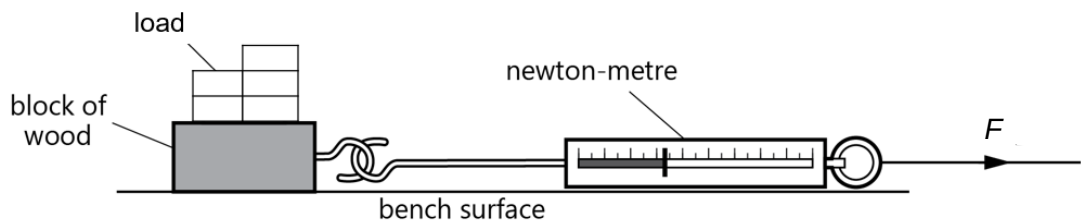

Fig. 2.1
- (a) Place a load of five 100 g masses on top of the wooden block. Pull the block horizontally across the bench at constant speed by means of the newton-meter, as shown in **Fig. 2.1**.